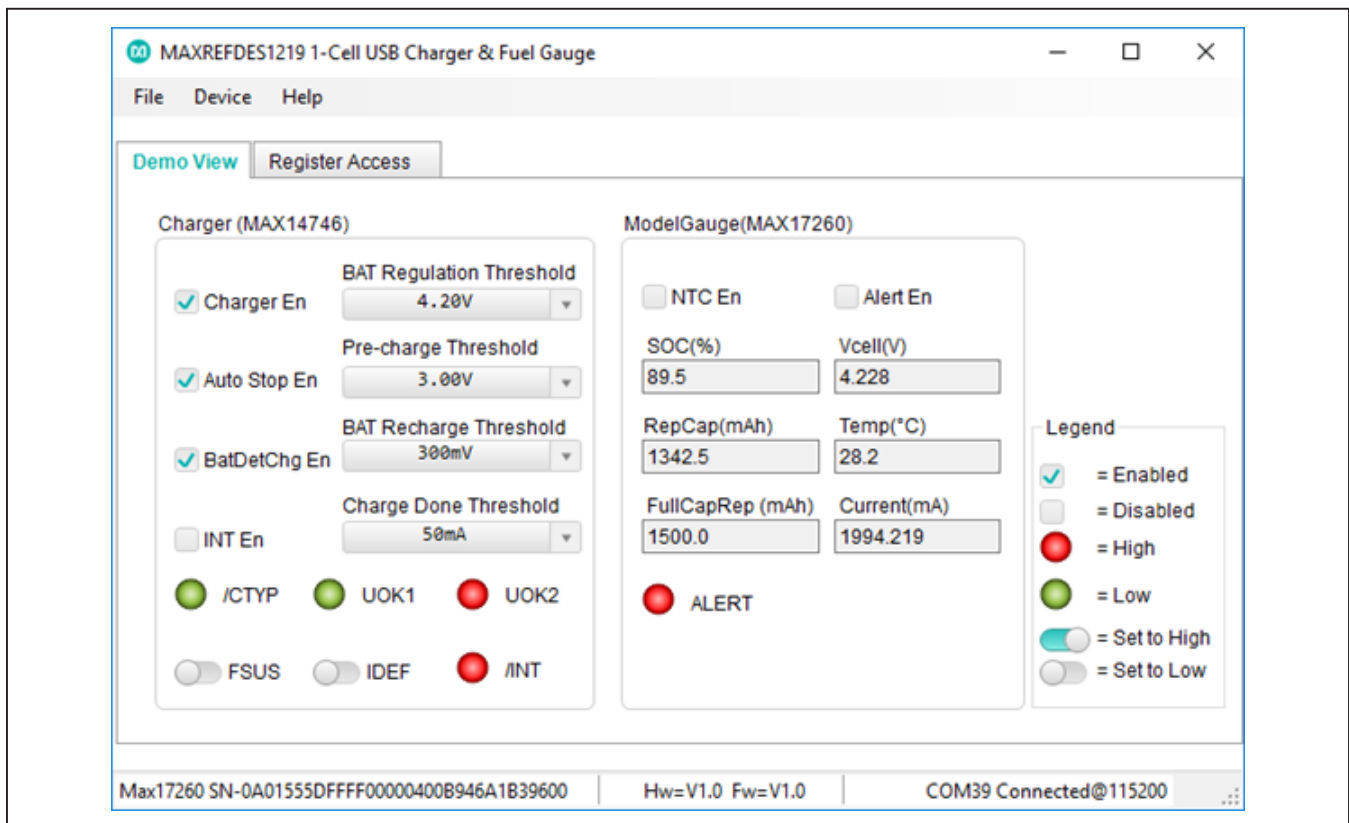

Figure 7. Demo View window.
- 5) The **Demo View** window (Figure 7) appears.